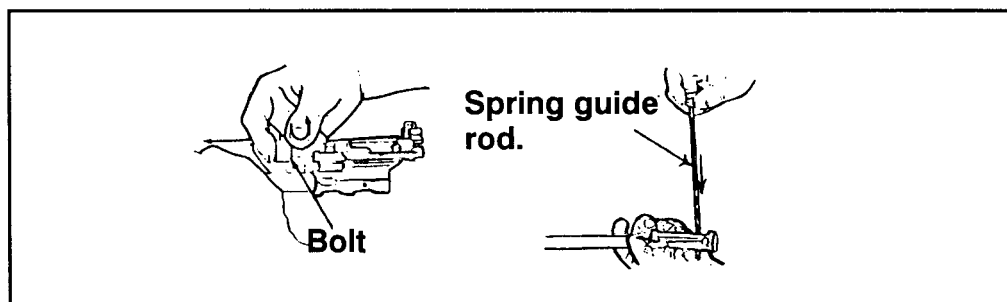

Figure 2-4. Separating the operating rod group.
(6) To separate the operating rod group (Figure 2-4), hold the piston assembly in one hand, place your other hand on the bolt assembly, and rotate the bolt to disengage the bolt from the slide assembly. Remove the firing pin spring from the firing pin, but be careful not to break the spring. If the spring sticks, rotate it clockwise to free it. The weapon will function without the spring; however, this weakens the firing pin action. To separate the slide assembly from the piston, press the retaining pin at the rear of the slide assembly to the left and lift the slide assembly.